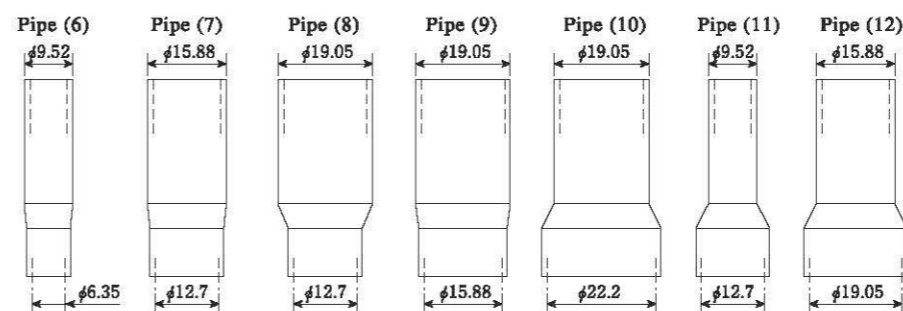

Fig. 2 (liquid pipe)
- Fit pipe cover (4) to liquid pipe (thin) (2) to attach it. Use heat insulator sealing tape (procured at local site) to seal the butted portion of pipe cover (4) (see Fig. 2).
- Process gas pipe (thick) (3) in the same way as liquid pipe (thin) (2).